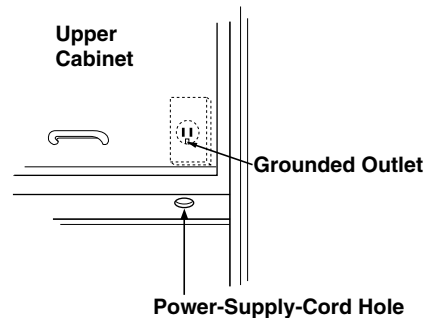

Figure 4 Detail
- **BE SURE** you have enough space. See Figure 4 below for minimum vertical and horizontal clearance.
1. Locate the grounded electric outlet for this oven in the cabinet above the oven, as shown in Figure 4 Detail.
2. You will cut the power-supply-cord hole (shown in Figure 4 Detail) later when you prepare the wall and upper cabinet in Step 4.
NOTE: Be sure the minimum width is 22 inches and the distance from the top of the microwave oven to the cooking surface is at least 30 inches. See Figure 4 on page 4.